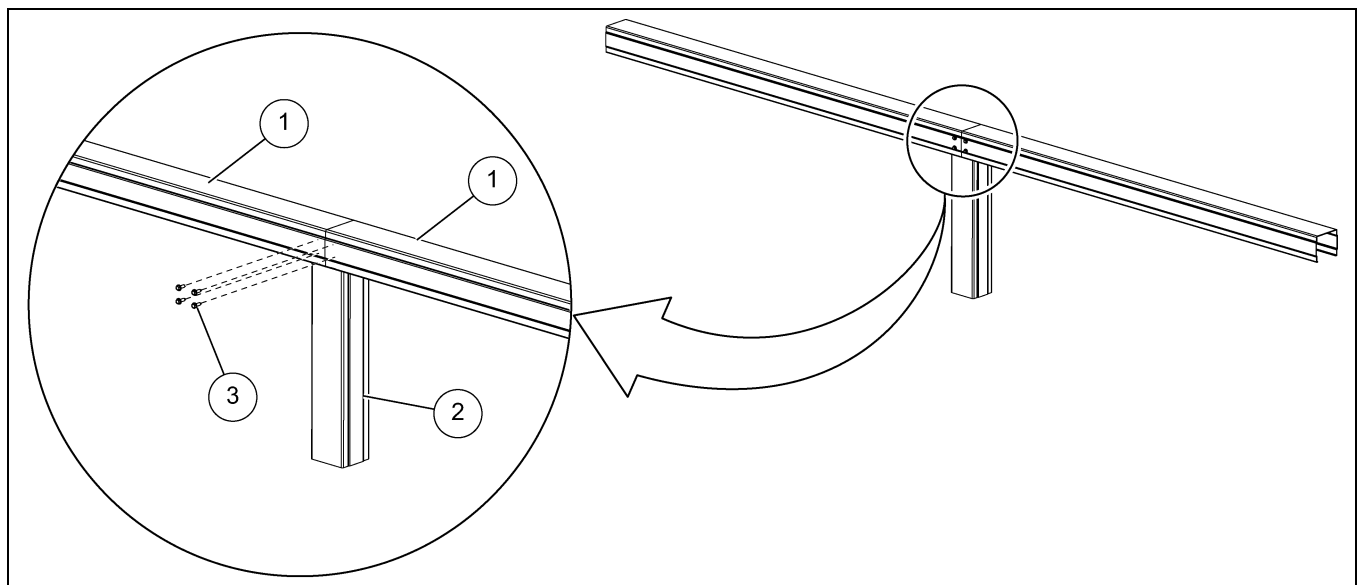

Figure 2 Installing the Screws in the Monorail
2. Use the four self-tapping screws (3) to secure the monorails (1) to the monorail leg (2) as shown in Figure 2. (**NOTE:** See the orientation of the monorail leg (2) in Figure 2.)